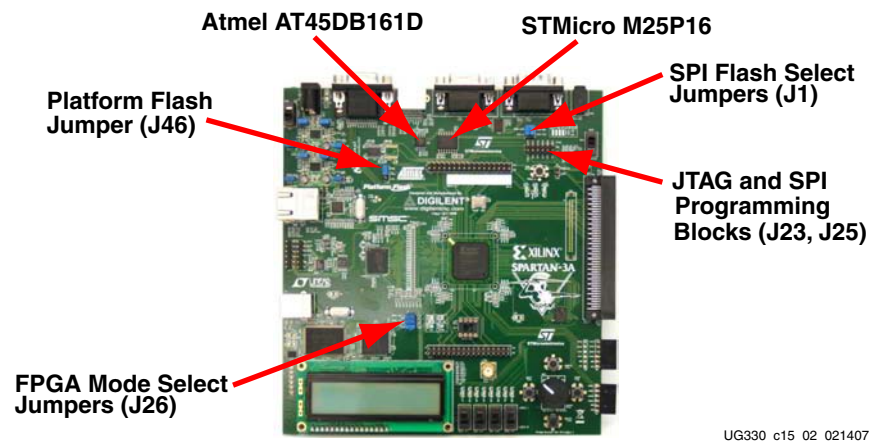
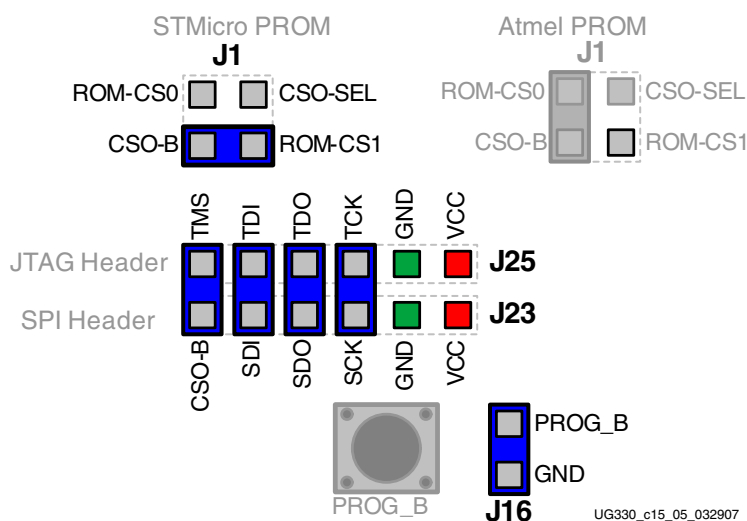

Figure 12-1: SPI Serial Flash PROMs and Associated Jumpers
Figure 12-4: Jumper Settings for Direct SPI Flash Programming
The Spartan-3A FPGA Starter Kit board includes two different styles of SPI serial Flash, as shown in Figure 12-1. Only one style is available to configure the FPGA. After configuration, however, the FPGA application has full access to both PROMs for data storage or Flash update purposes.
The J1 jumper block, shown in Figure 12-1, defines which SPI Flash PROM is connected to the FPGA for Master SPI mode configuration and which is optionally available via a separate, second SPI slave select signal.
3. Locate the J1, J23, and J25 jumpers in the upper right corner of the board, using Figure 12-1 as a guide. Figure 12-4 also provides a reference diagram.
4. Insert a jumper in jumper block J1, as shown in Figure 12-4. The figure shows the setting to program the STMicro M25P16 PROM. Alternatively, set the jumper to program the Atmel AT45DB161D DataFlash PROM.
5. Insert four jumpers between jumper blocks J25 and J23, as shown in Figure 12-4. These jumpers connect the embedded USB JTAG programmer on the J25 jumper pins to the SPI PROM via the J23 jumper pins.
6. Set the FPGA mode select pins for Master SPI mode using jumper J26, as shown in Table 12-4. The location of the J26 jumper appears in Figure 12-1.
7. Disable the Platform Flash PROM by removing jumper J46, shown in Figure 12-1 and Table 12-4.
8. For direct programming, the FPGA's PROG_B pin must be held Low. Insert a jumper in jumper J16, as shown in Figure 12-4. This holds all the FPGA's I/O in three-state to allow the JTAG programmer full access to the SPI PROM pins.
2. Insert a jumper in jumper block J1, as shown in Figure 12-4. The figure shows the setting to program the STMicro M25P16 PROM. Alternatively, set the jumper to program the Atmel AT45DB161D DataFlash PROM.